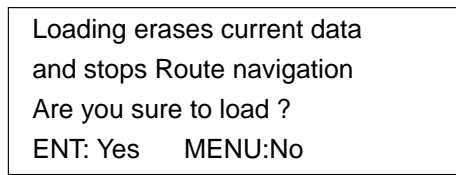

Figure 8-13
- 12) Press **▶** to select Start. The message shown in Figure 8-13 appears.